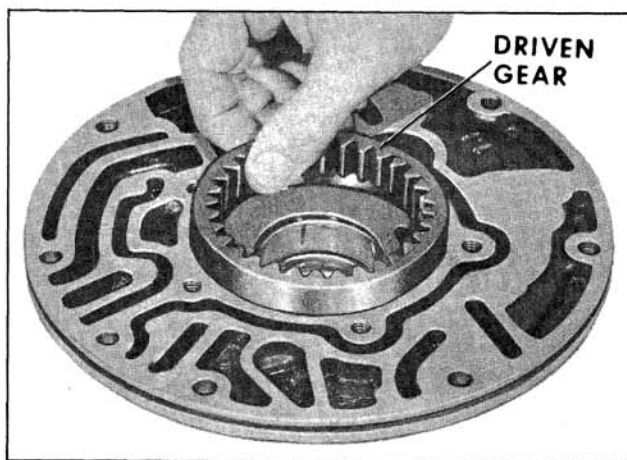

Fig. 6-412 Removing Oil Pump Driven Gear
7. Remove oil pump driven gear. (Fig. 6-412)